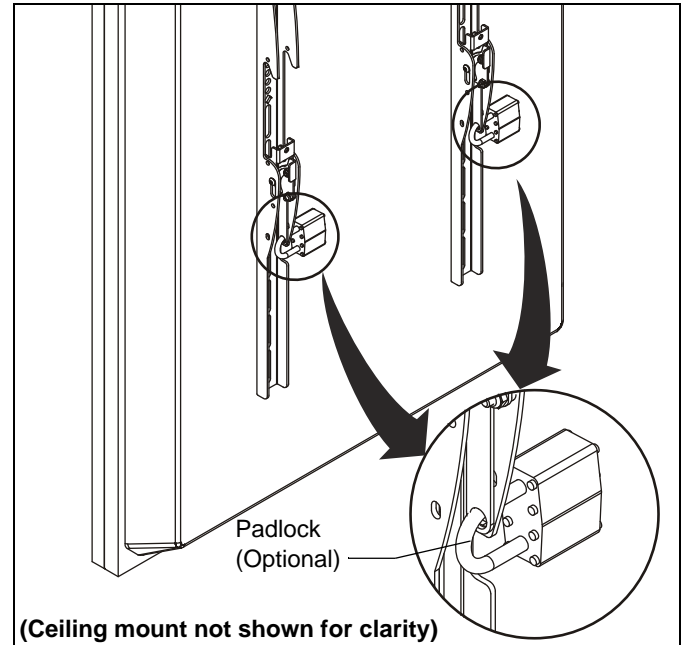

Figure 12
- OPTIONAL:** Add padlock (not included) to each interface bracket to lock display to ceiling mount. (See Figure 12)